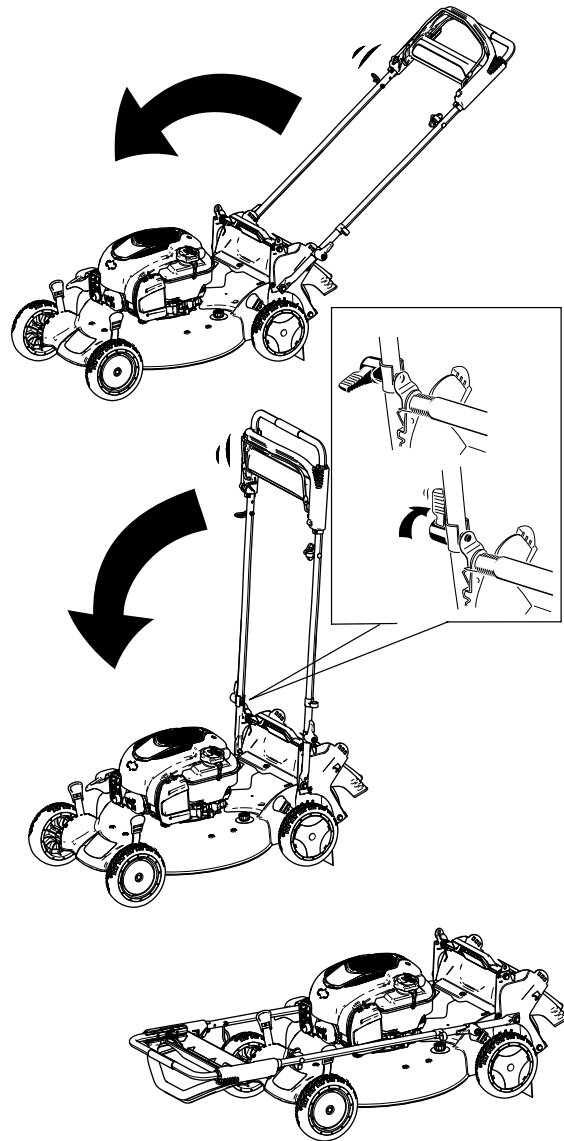

Figure 24
2. Rotate the handle forward (Figure 24).